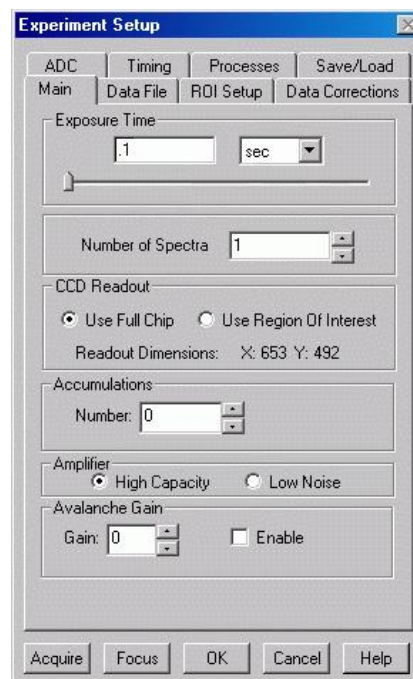

Figure 31. Experiment Setup: Main tab page
1. Open the Experiment Setup dialog (Figure 31) from the Acquisition menu or by clicking on the  button on the **Custom Toolbar**.